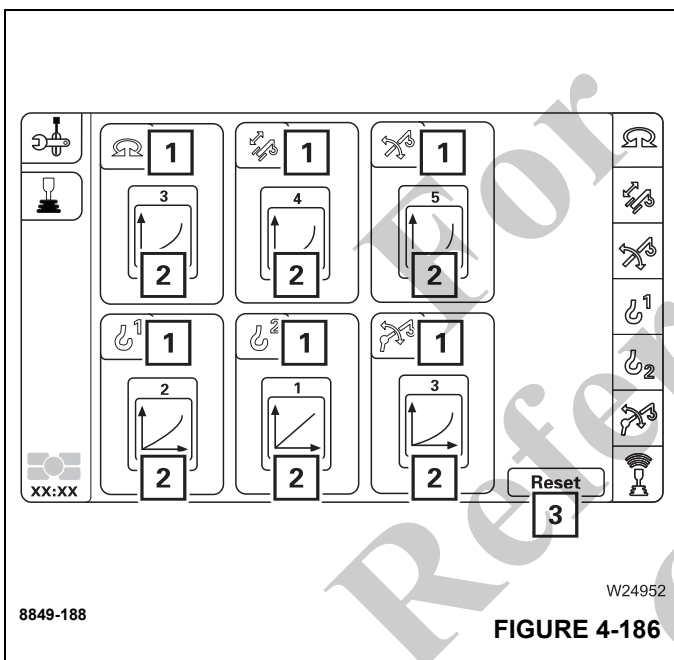

FIGURE 4-186
The symbols (2), (Figure 4-186) show the set characteristic curves of the power units (1), (Figure 4-186).
Select and confirm symbol (3), (Figure 4-186) to reset all power units to characteristic Curve 1.